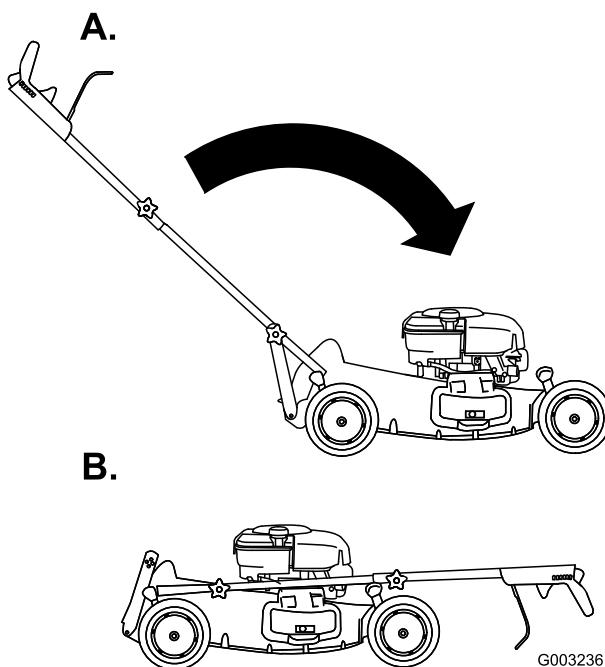

Figure 55
3. Rotate the handle forward (Figure 55).